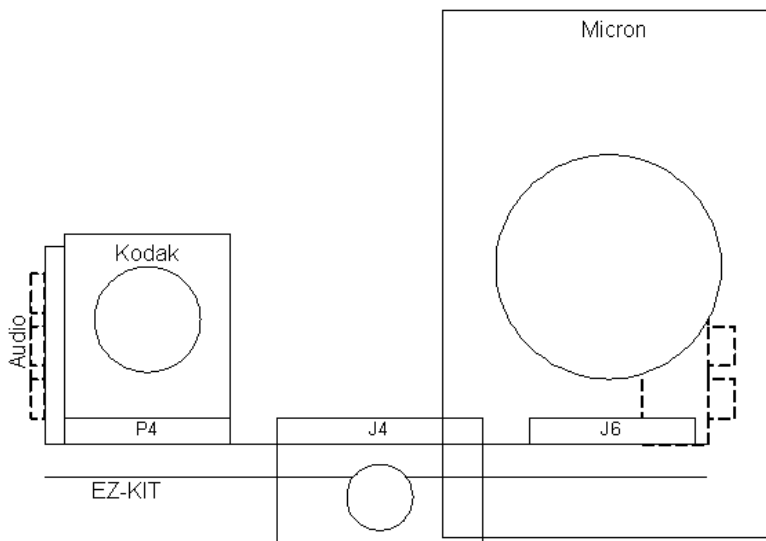
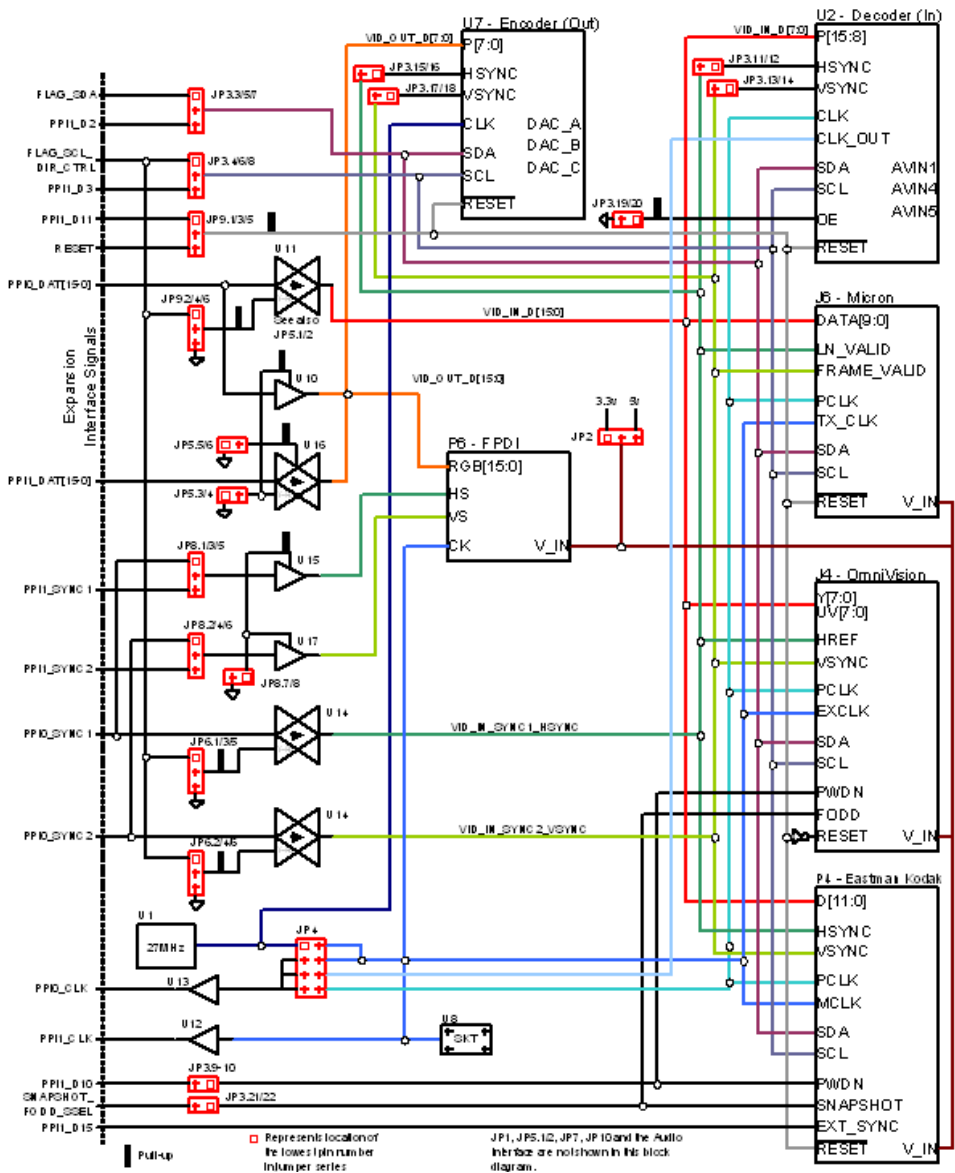

Figure 1-1. Camera Orientation
Figure 2-1. Block Diagram
3. Set the jumpers on the A-V EZ-Extender board. Use the block diagram in Figure 2-1 on page 2-3 in conjunction with “Jumpers” on page 2-7.
For an audio application, the Blackfin A-V EZ-Extender uses the AD1836A multichannel 96 kHz audio codec. The AD1836A is a high-performance single-chip codec that provides three stereo digital-to-analog converters (outputs) and two stereo analog-to-digital converters (inputs) using ADI’s patented multi-bit sigma-delta architecture. The board includes a serial peripheral interface (SPI) port, allowing the processor to adjust volume and other parameters. For a general overview of the audio interface connections, see Figure 2-1 on page 2-3. For more detailed information, see “A-V EZ-Extender Schematic” on page B-1.
The Blackfin A-V EZ-Extender supports video input and output applications with an on-board video encoder and decoder. The ADV7179 video encoder provides up to three output channels of analog video, while the ADV7183B video decoder provides up to three input channels of analog video. Both the encoder and the decoder connect to the PPI0 of the expansion interface, while the encoder also can connect to the PPI1 (if the processor has two PPI ports). For a general overview of the analog video interface connectors, see Figure 2-1 on page 2-3. For more detailed information, see “A-V EZ-Extender Schematic” on page B-1.
The Blackfin A-V EZ-Extender has three right-angle connectors (J4, J6, and P4) with the control signals necessary to interface with three different manufactures camera evaluation modules. For a general overview of the camera module interface connections, see Figure 2-1 on page 2-4. For more detailed information, see “A-V EZ-Extender Schematic” on page B-1. Figure 1-1 shows the orientation of the camera modules, as each camera connects to the board.
The flat panel display interface (FPDI) consists of a 31-pin DB9 connector linked to the PPI port and frame sync signals of the processor. For a general overview of the display interface connections, see Figure 2-1 on page 2-4. For more detailed information, see the “A-V EZ-Extender Schematic” on page B-1.
A block diagram of the Blackfin A-V EZ-Extender is shown in Figure 2-1.
In Figure 2-1, unidirectional buffers are shown as triangle symbols, while bidirectional buffers are shown as two overlapping triangles. For both types of buffers, the output-enable signal comes out of the top and is active `LOW`. For the bidirectional buffers, a second signal for the direction is shown. When this net is pulled `HIGH`, the buffer is driving in the direction of the arrow in the center, when `LOW`, the buffer is driving in the opposite direction.
The PPI\_CLK signals of the PPI0 and PPI1 are set up using the clock setup jumpers. Table 2-5 shows the results of the jumper connections. For more information about the clock settings, refer to Figure 2-1 on page 2-4.